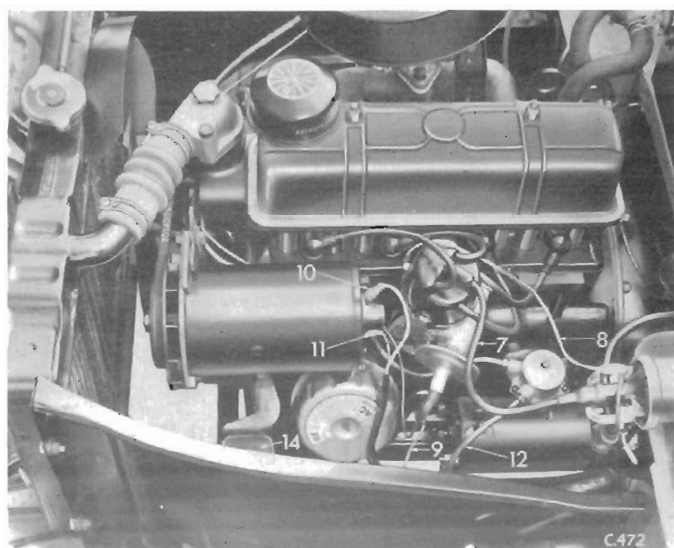

Fig. 15. Left-hand view of Herald 1200 engine
Refer to Fig. 15 and disconnect:— (L.H.S.)
- Front engine mountings (14), Fig. 15.